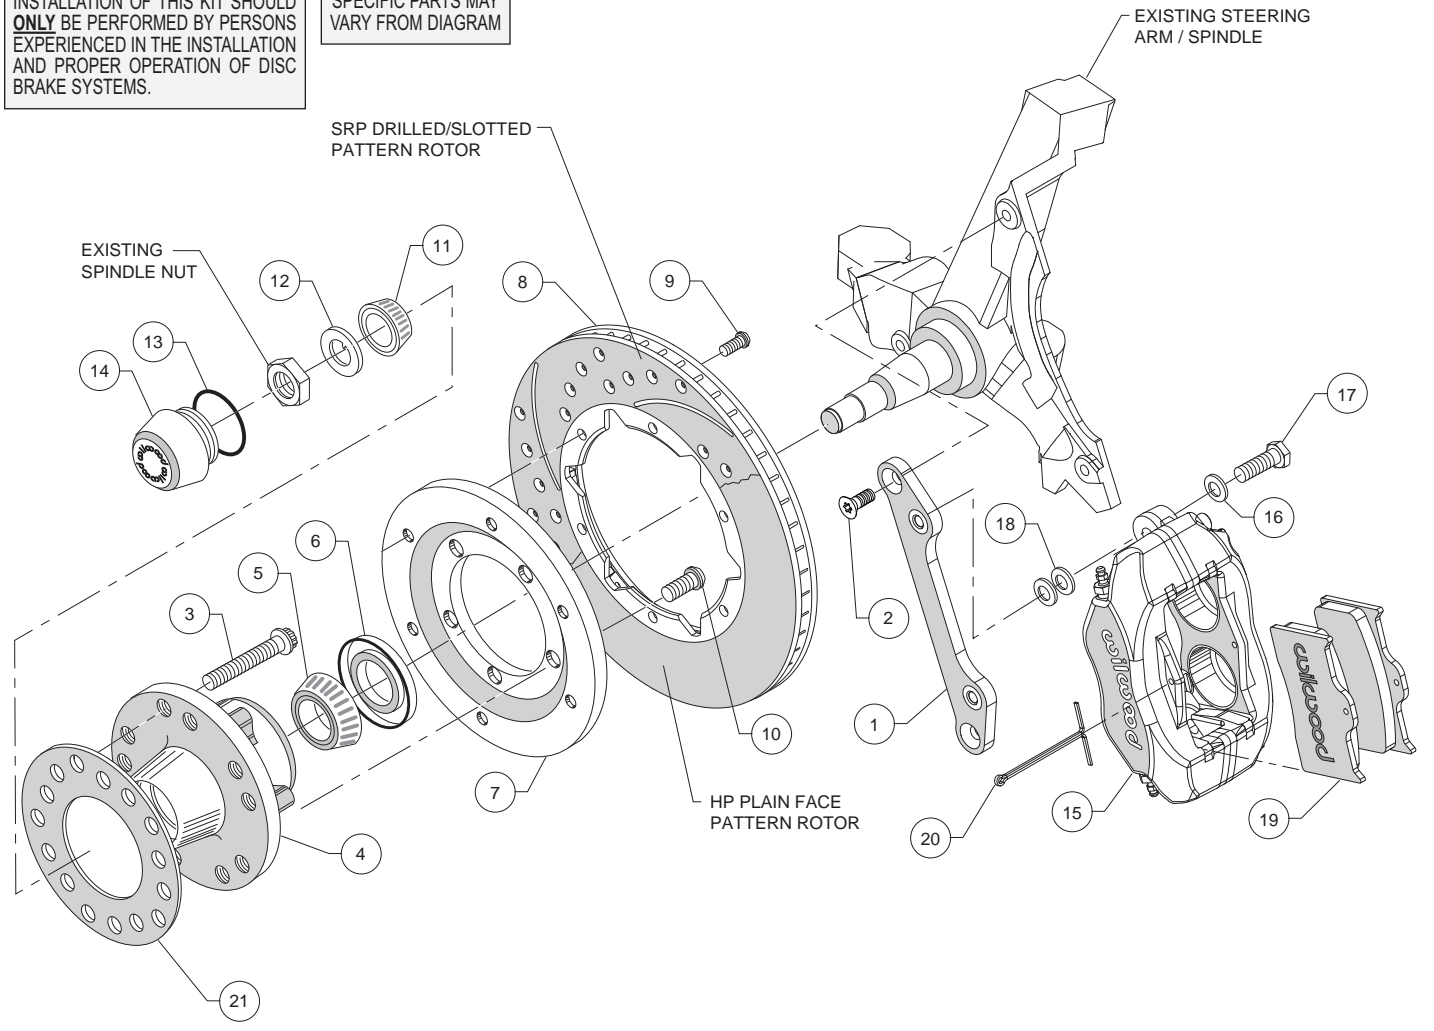
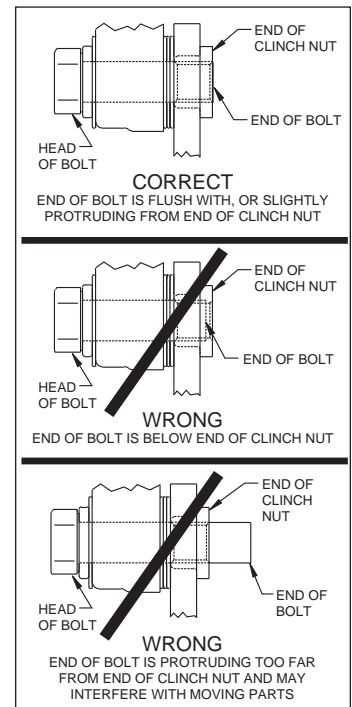

Figure 2. Typical Installation Configuration
Figure 4. Clinch Nut Engagement Diagram
Assembly Instructions (numbers in parenthesis refer to the parts list, above and Figure 2): **CAUTION:** All mounting bolts must fully engage clinch nuts. Be sure to check that all bolts are either flush or protruding through flanged side of clinch nut after shimming, Figure 4.
- Align caliper mounting bracket (1) with the corresponding holes, to the face of the spindle. Attach using bolts (2) as shown in Figure 2 and Photo 1. Temporarily tighten the mounting bolts. Ensure that the flanged heads of the clinch nuts in the bracket are facing outboard, Photo 1. **NOTE:** The bracket must fit squarely against the mounting points on the spindle. Inspect for interference from casting irregularities, machining ridges, burrs, etc. Remove bolts one at a time, apply red *Loctite*® 271 to threads and torque to 40 ft-lbs.
- Install wheel studs (3) into the hub (4), Photo 2. Torque to 77 ft-lb. **NOTE:** There are two five lug patterns in the hub (5 x 4.50 and 5 x 4.75). Ensure the correct hub stud pattern is being used to fit the wheel application.
- Pack the large inner bearing cone (5) with high temperature disc brake bearing grease (available from your local auto parts store) and install into the backside of the hub (4), Photo 3.
- Install the grease seal (6) by pressing into the backside of the hub (4), flush with the end of the hub, Photo 3.
- Orient the rotor (8) and the rotor adapter (7) as shown in Figure 2 and Photo 4. Attach the rotor to the adapter using bolts (9). Using an alternating sequence, apply red *Loctite*® 271 to the threads, and torque to 25 ft-lb.
- Mount the adapter/rotor assembly (7/8) to the hub (4) using bolts (10), as shown in Figure 2 and Photo 5. Using an alternating sequence, apply red *Loctite*® 271 to the threads, and torque to 45 ft-lb.
- NOTE:** Please reference the caution statement at the beginning of the assembly instructions. Mount the caliper (15) onto the caliper mounting bracket (1) using bolts (17) and washers (16), as shown in Figure 2. Initially place two .035" thick shims (18) on each bolt between the caliper and the bracket, Photo 8. Temporarily tighten the mounting bolts and view the rotor (8) through the top opening of the caliper. The rotor should be centered in the caliper, Photo 9. If not, adjust by adding or subtracting shims between the bracket and the caliper. Always use the same amount of shims on each of the two mounting bolts. **NOTE:** The end of each bolt must be flush with or slightly protruding from the head of the clinch nut, as shown in Figure 4. If necessary place spare shims between washer (16) and caliper mounting ear to achieve the proper clinch nut engagement. Once the caliper alignment and clinch nut engagement are correct, remove the bolts one at a time, apply red *Loctite*® 271 to bolt threads, and torque to 40 ft-lb.